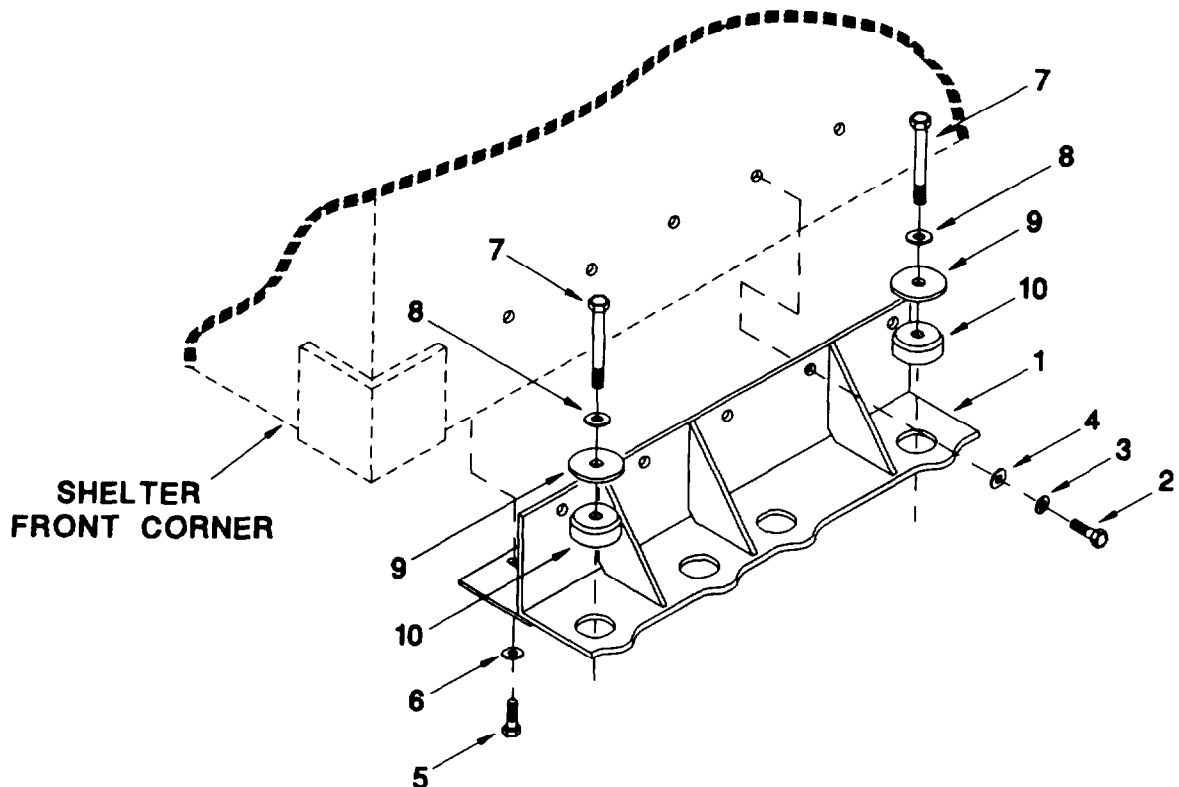

Figure 3-3. Front Bracket Mounting Assembly
c. Front Shelter Preparations. (Refer to Figure 3-3)
(1) Remove bolts/plugs from the front and bottom front surfaces of the shelter.